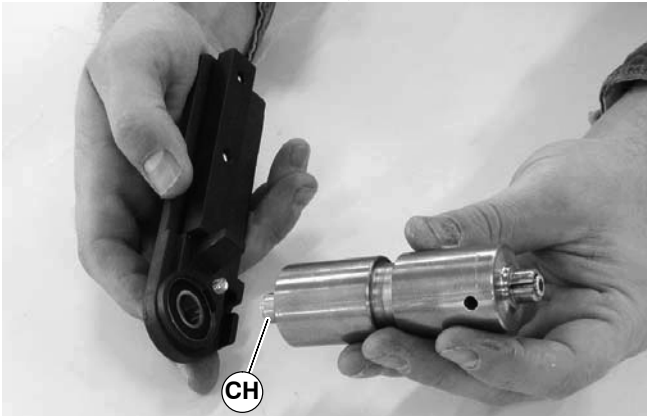

Figure 55
2. With bearing installed in head plate, slide bearing on to shaft (CH of Figure 55) of pulley.